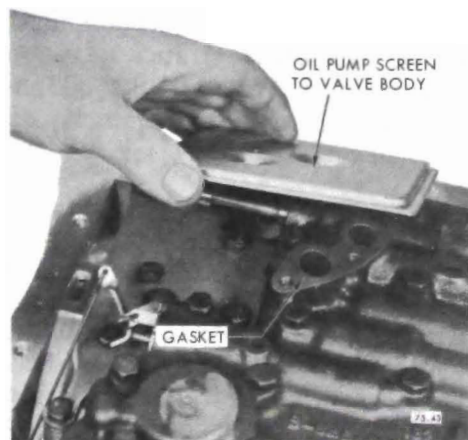

Figure 75-301
7. Install strainer assembly gasket and strainer. See Figure 75-301.